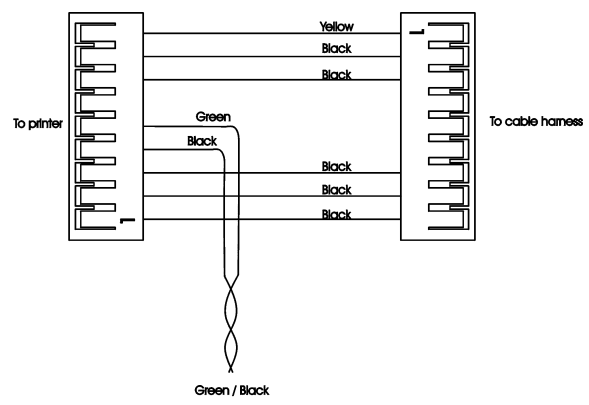

Figure 12
3. Take the Communication cable from the installation kit. **Note, make sure you connect the connectors correctly, the yellow wire should always be on top, figure 12.** Connect connectors CN115, CN120 and CN125 on the Main board PCB1.